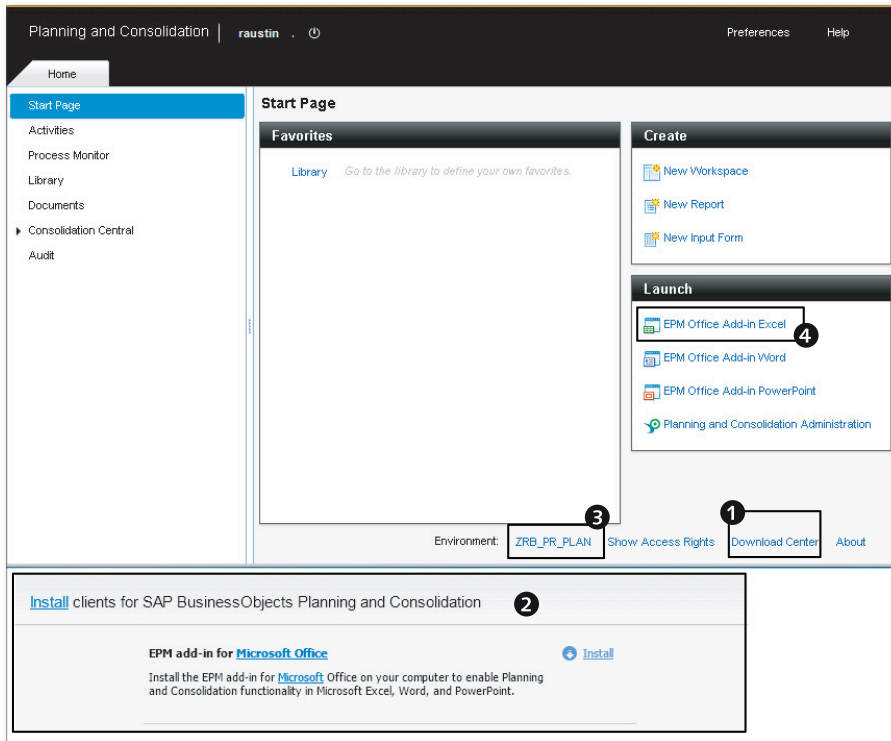

Figure 4.15 Loading Master Data from a Flat File into a Dimension—Part A
for reporting and using Data Manager packages. If you have not done so already, download the EPM add-in client to your desktop by selecting **DOWNLOAD CENTER** (Figure 4.15, ❶). This will open a new window and provide the link to install the EPM add-in client (Figure 4.15, ❷).
2. After the EPM add-in is installed, confirm you are connected to the **ZRB_PR_PLAN** environment (Figure 4.15, ❸). Then click on **EPM OFFICE ADD-IN EXCEL** to launch the EPM add-in for Excel (Figure 4.15, ❹).